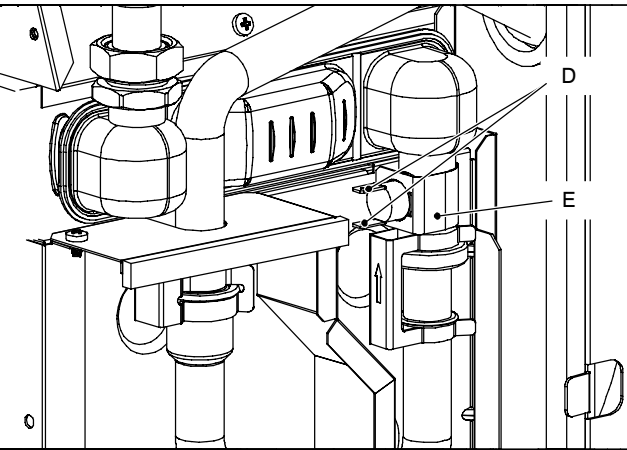

Fig. 80
- 3 Disconnect the wiring D (detail in Fig. 80).